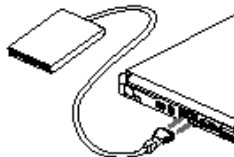

Figure 5-17 Installation of an optional External Floppy Disk Drive
1. Align the connector of the optional external floppy disk drive with the connector towards the rear of your notebook with the wide side of the connector down. (Figures 5-17 and 5-18.)
1. Squeeze the releases on the sides of the optional external floppy disk drive connector next to the body of your notebook together. (Figures 5-17 and 5-18.)